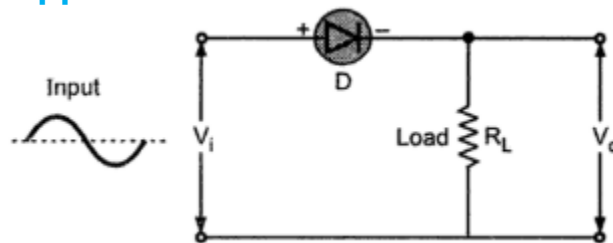

Fig. 1.44 Negative series clipper
- Consider a circuit shown in the Fig. 1.44 where diode is connected in series with the load.